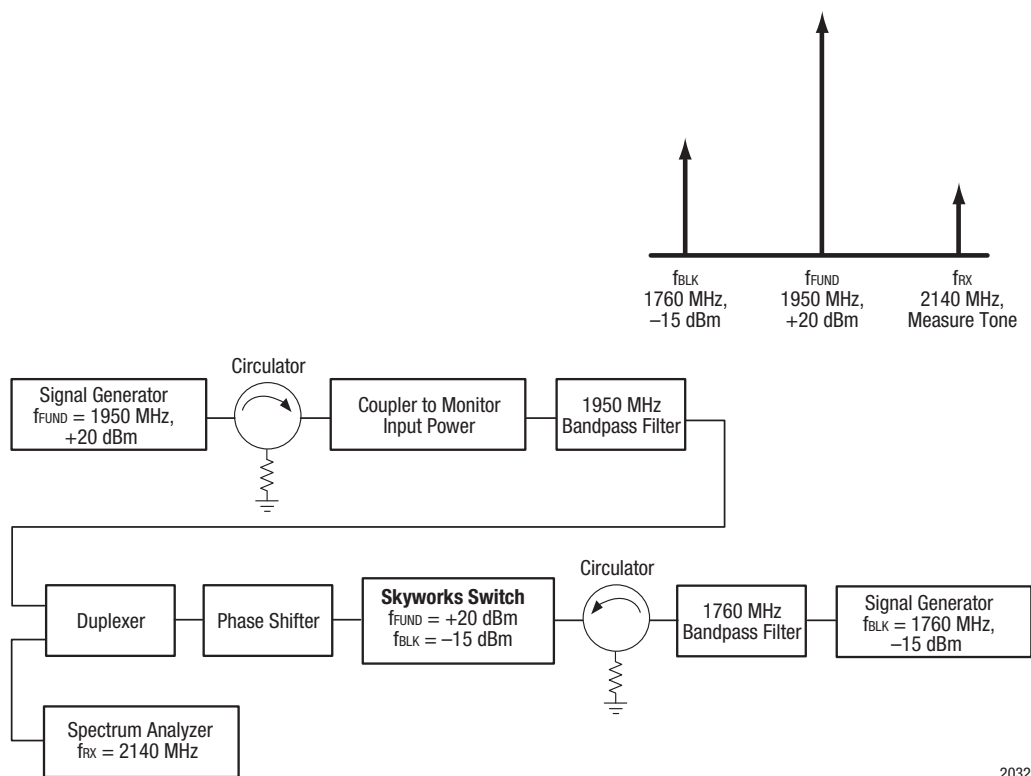

Figure 3. Typical Third Order Intermodulation Test Setup
Figure 3 illustrates the test setup used to measure intermodulation products. This industry standardized test is used to simulate the WCDMA linearity of the antenna switch. A +20 dBm continuous wave (CW) signal, f_{UND} , is sequentially applied to the TRX ports, while a -15 dBm CW blocker signal, f_{BLK} , is applied to the ANT port.